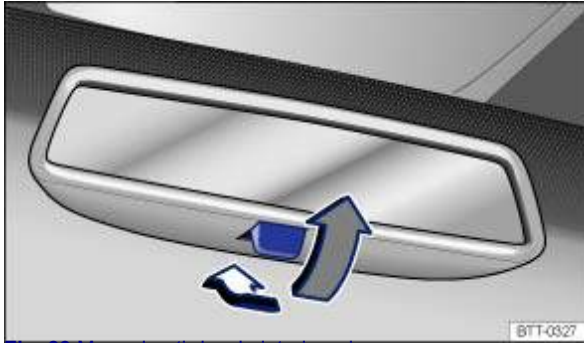

Fig. 83 Manual anti-dazzle interior mirror
- Pull the lever to the back to select the anti-dazzle function → Fig. 83.